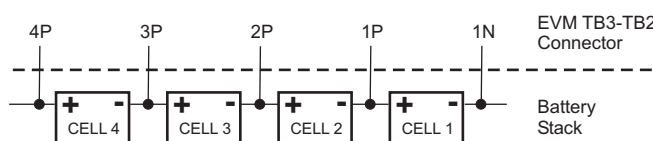

Figure 1. Connection Sequence
1. Connect the most negative terminal (– terminal of cell 1) of the serially-connected, 4-cell battery stack to the 1N PIN of the TB3–TB2 connector as shown in Figure 1.